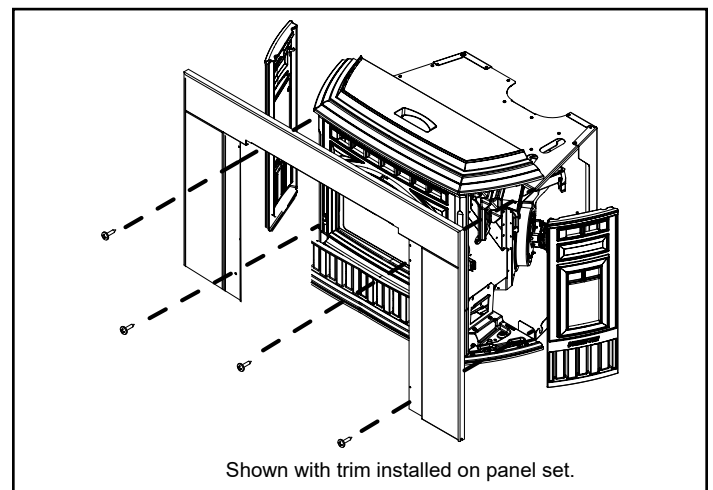

Figure 20.5
4. Carefully slide surround and trim over the top of the insert into place matching the mounting holes on the panel with the mounting holes on the insert. Secure with screws provided (**Figure 20.5**).